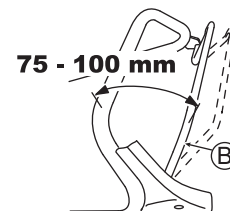

Fig. 26
Adjust so that the machine runs (the drive clutch gets engaged) when the distance between the drive clutch lever (B) and the handle is 75 - 100 mm as shown in Fig. 26.